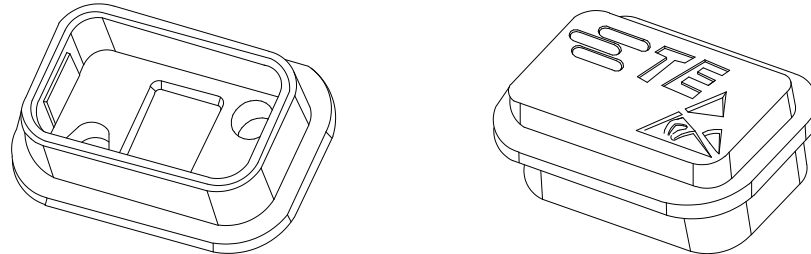

Figure 4
**C. Protective Cover** (Figure 4)